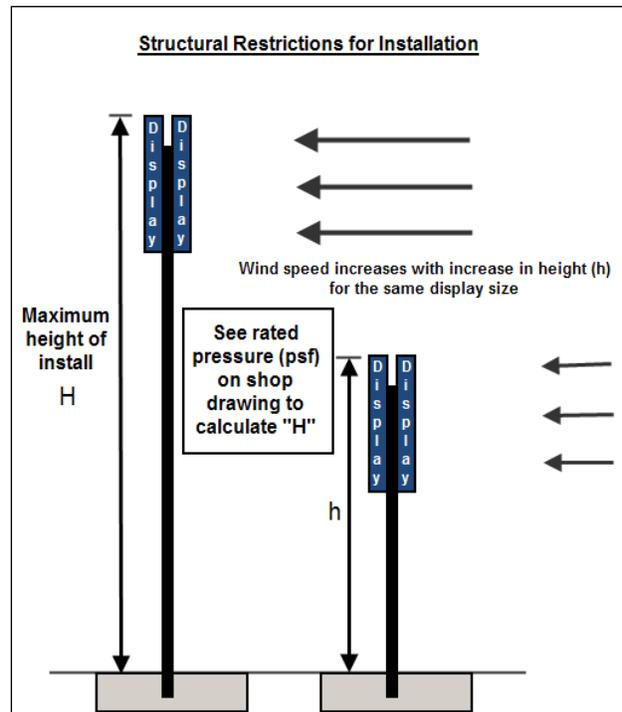

Figure 6: Structural Restrictions for Installation
- Display height and wind load. Refer to **Figure 6** and the **Shop Drawing** that is included with the display.